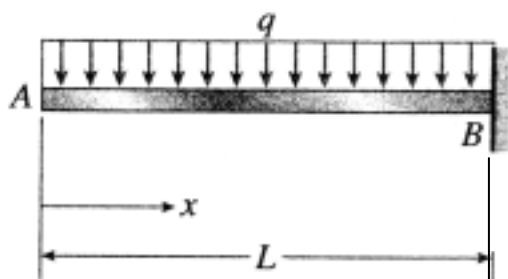

Fig. 3
3. A cantilever beam AB of length L supporting a uniform load of constant intensity q is shown in Fig. 3. Draw the shear-force and bending-moment diagrams for this beam. (25%)